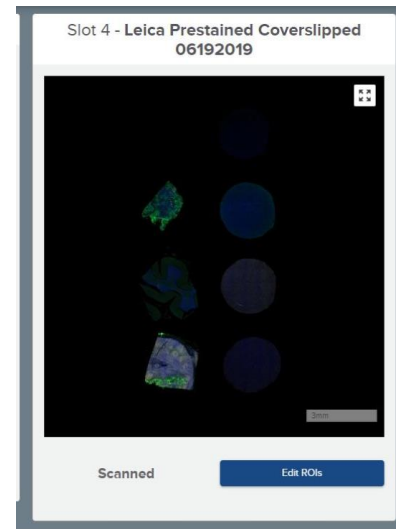

Figure 22: Control Center single slot view of Edit ROIs button activated after scanning
1. During the DSP run, use the **Edit ROIs** button (see Figure 22), which will become active underneath a slide's image after the 20x scan has completed.